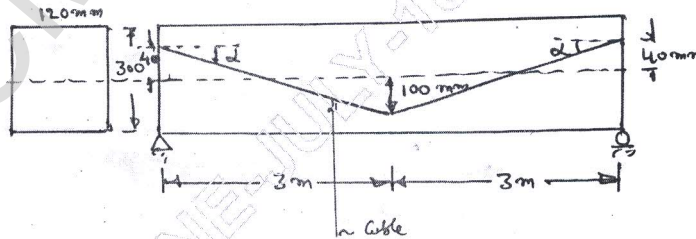

Fig.Q4(b)
- The beam of uniform section is prestressed with a bent cable as shown below Fig.Q4(b), in which the initial prestress is 300 kN. Taking the loss ratio as 80%. Determine